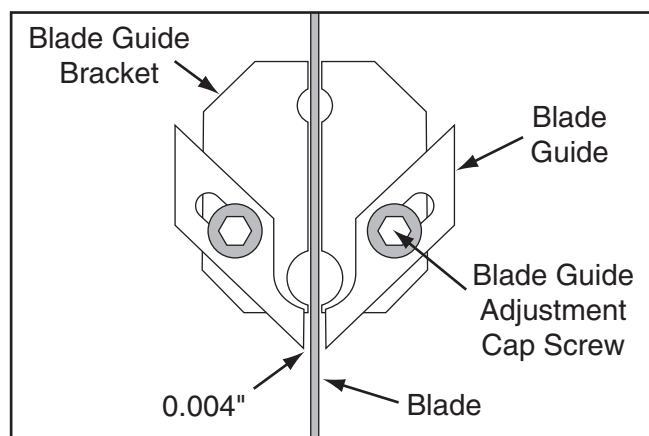

Figure 25. Blade guides adjusted 0.004" away from the blade sides.
5. Loosen the blade guide adjustment cap screws (see **Figure 25**).